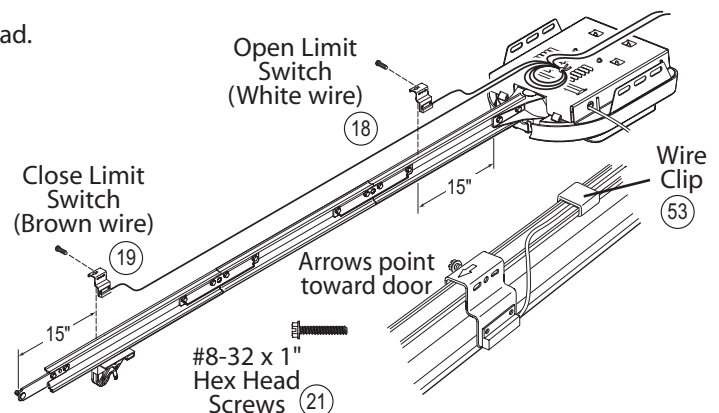

Figure 14 Install Limit Switches on Assembled Rail
- C** Place Switches on Rail with arrows pointing away from Power Head (Figure 14).
- F** Lay Wires in channel on top of Rail and secure with Wire Clips (**Figure 14**).
- G** Coil and bundle excess Limit Switch Wires on top of Power Head with Twist Ties. Leave just enough Wire to reach Terminals on back of Power Head (**Figure 14**).